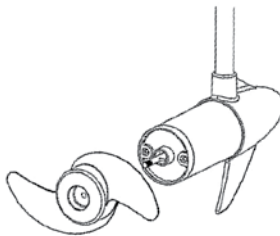
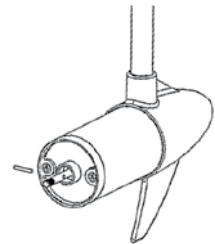

Figure 2
Figure 3
3. Pull the propeller straight forward and off of the shaft (see Figure 2). Tap the backside of the propeller with a rubber mallet to loosen if necessary. Replace the propeller pin if bent (see Figure 3). Align the new propeller with the shaft and reinstall propeller nut by hand, then 1/4 turn with pliers or spanner. Do not over-tighten the propeller nut.